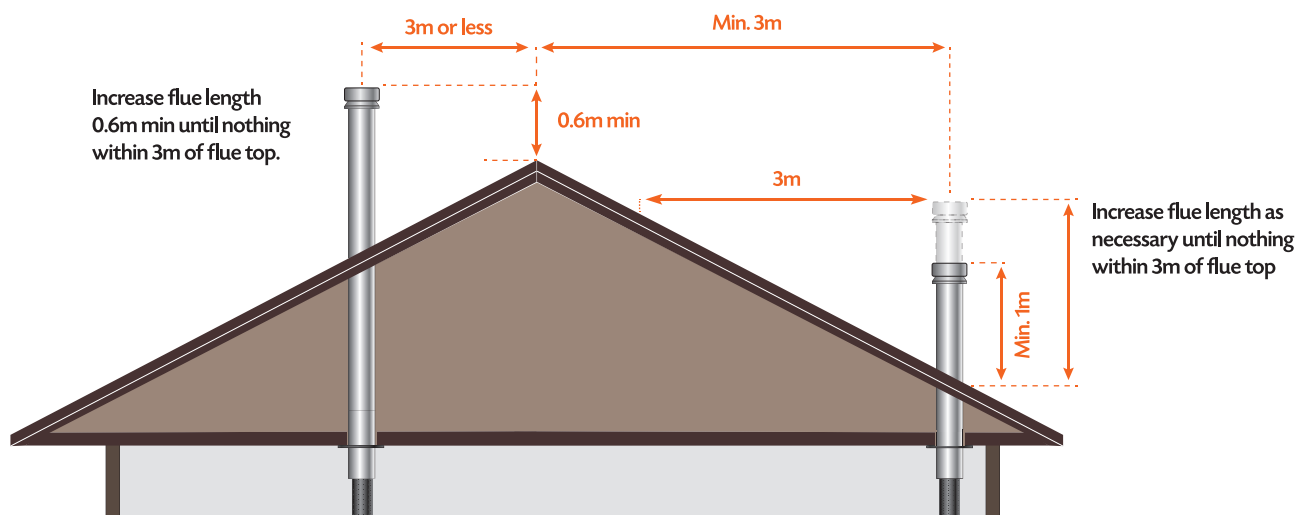

FIGURE 1
7. Add the remaining casings to the required height. Australian/New Zealand Standards state that “the flue pipe shall extend not less than 4.6m above the top of the floor protector”. If the flue pipe is within 3 metres of the ridge, the flue pipe must protrude at least 600mm above the ridge of the roof. If the distance from the ridge is more than 3 metres, the flue pipe must protrude at least 1000mm above roof penetration. Additional lengths of casing and flue may be required to achieve this. The flue pipe must be more than 3 metres from any nearby structure. Other clearances may be applicable, it is up to the installer to ensure compliance with all regulations. **See Figure 1 and 2 on P7.**